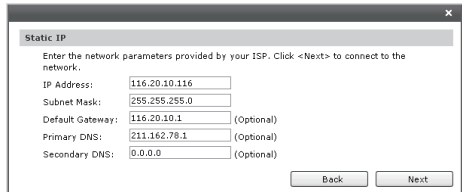

Figure 5-11 WAN Connection Type - Static IP
- 3) If you choose Static IP, you should enter the detailed IP information provided by your ISP in Figure 5-11.